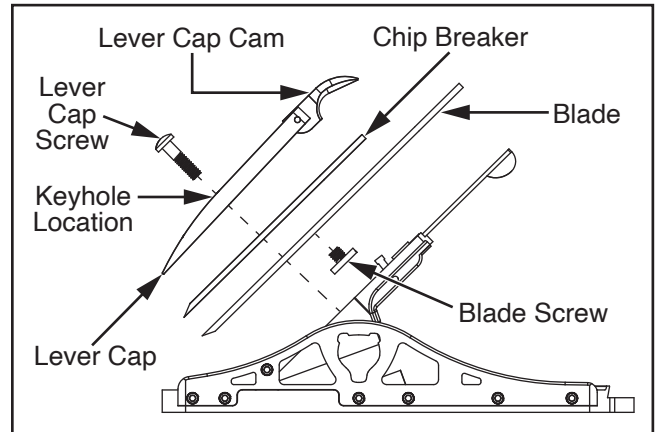

Figure 7. Blade replacement components.
1. Pull up on lever cap cam and slide lever cap up through keyhole to remove, then remove blade and chip breaker (see **Figure 7**).